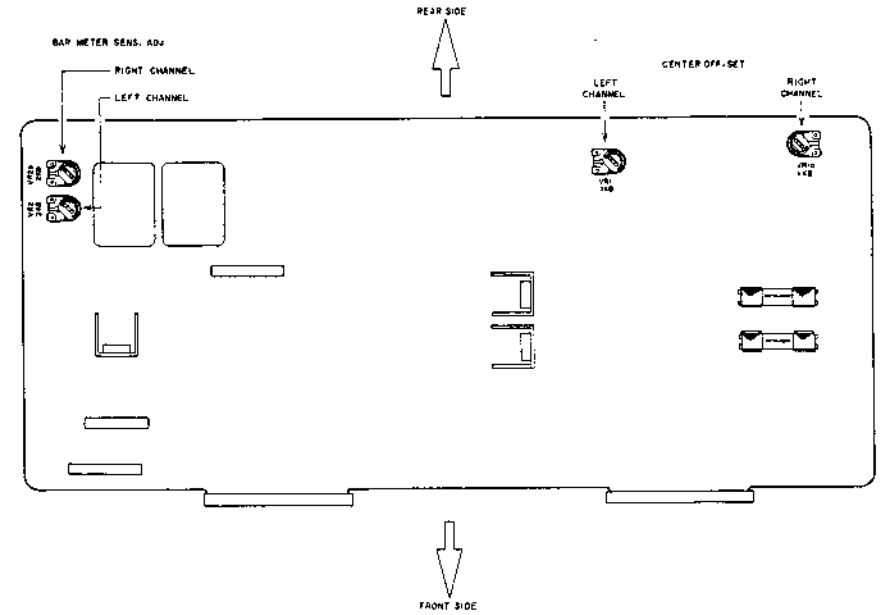

Fig. 16 Main Amp P.C. Board
1. CENTER OFF-SET VOLTAGE ADJUSTMENT (Refer to Figs. 16, 17)
2. BAR METER SENSITIVITY ADJUSTMENT (Refer to Figs. 16, 17)